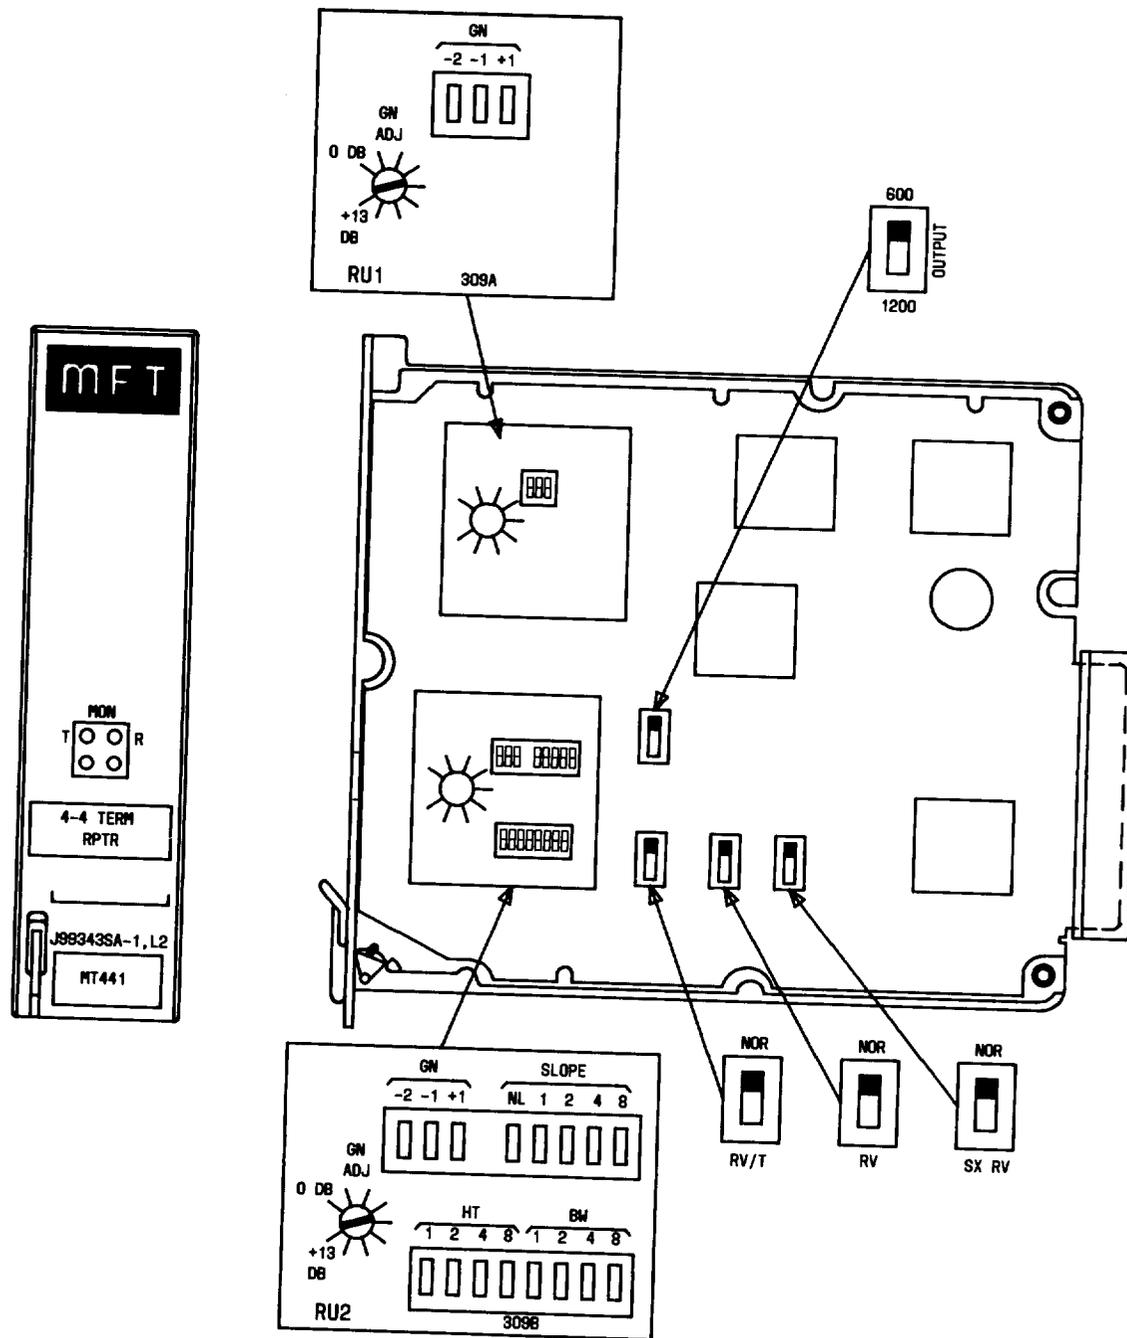
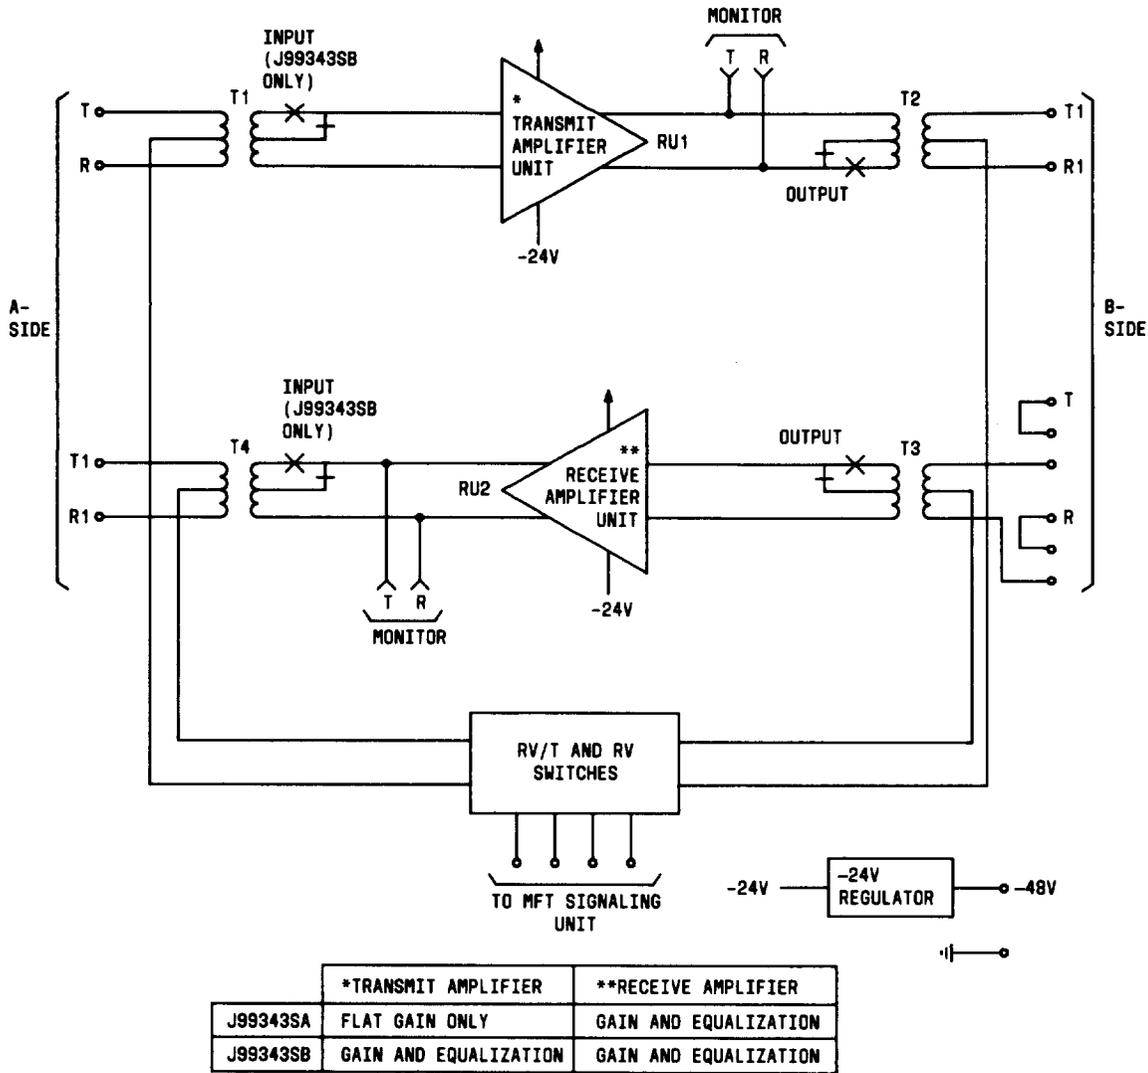
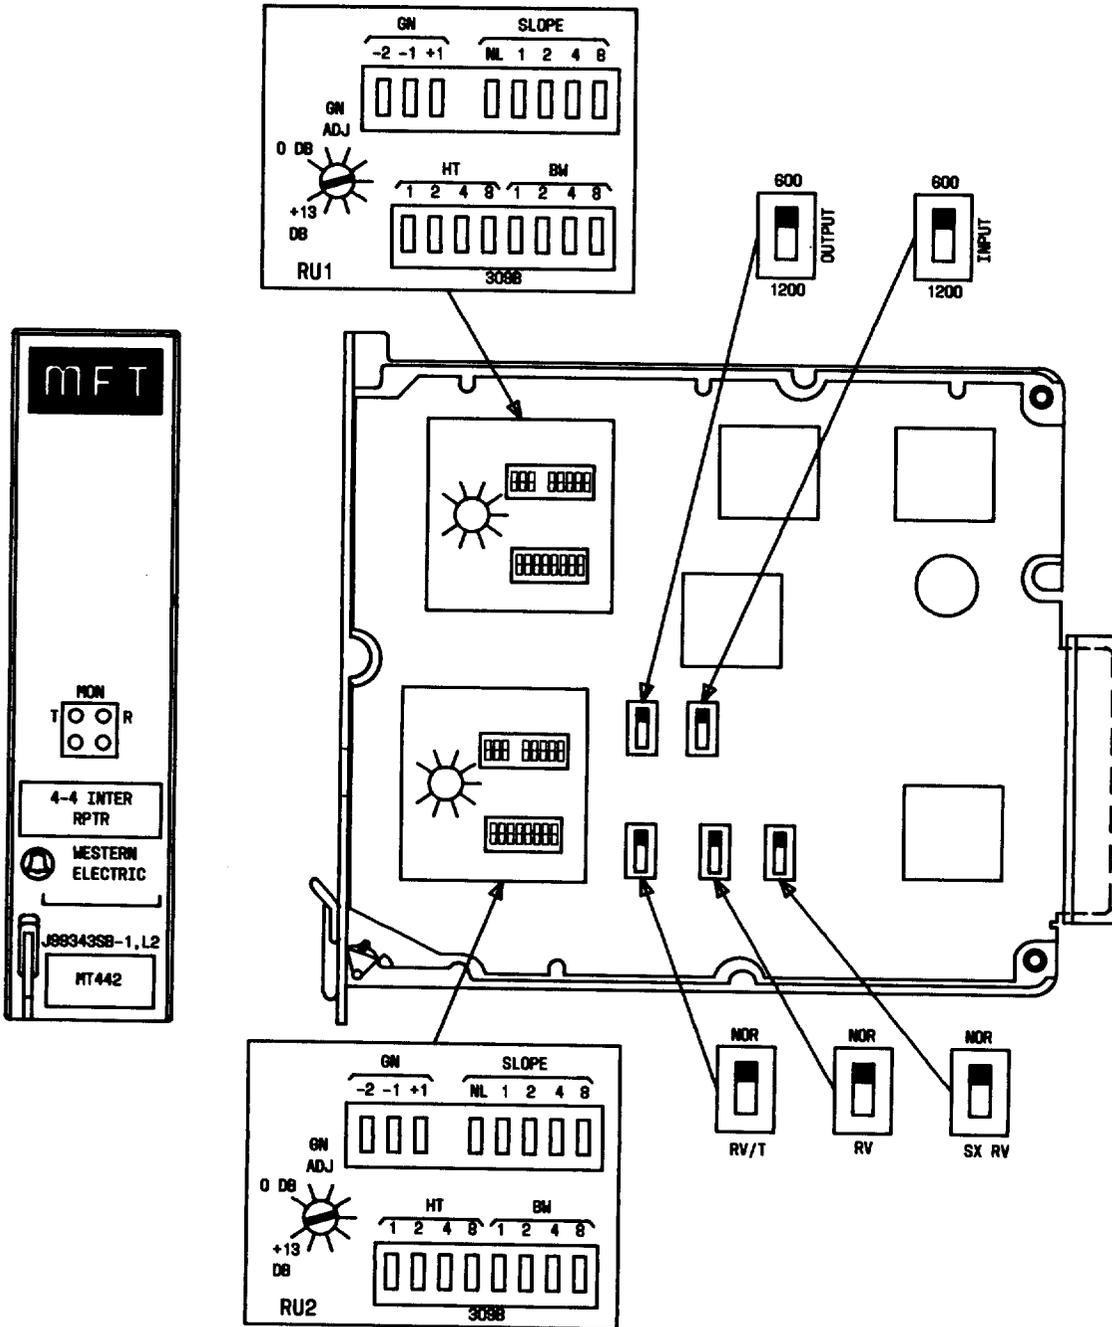

Fig. 1—J99343SA, Lists 1 and 2 (MD) Repeaters Component Layout
Fig. 2—Block Diagram of the J99343SA and SB, Lists 1 and 2 Repeaters
Fig. 6—J99343SB, Lists 1 and 2 Repeaters (MD) Component Layout
2.01 The J99343SA, Lists 1 and 2 are shown in Fig. 1. They provide gain between loaded or nonloaded 4-wire facilities and 600-ohm terminal equipment. Equalization is provided in the B-to-A direction of transmission. Figure 2 is a block diagram of these units.
2.06 The rocker-type switches for a particular function, which are described in the following paragraphs, are operated when depressed toward the respective designation. The sum of the values of the switches operated is the setting for that function. The unit controls are illustrated in Fig. 1.
4.01 The J99343SB, Lists 1 and 2 are shown in Fig. 6. They provide intermediate gain and equalization in the loaded or nonloaded 4-wire facilities. Figure 2 is a block diagram of these units.
4.05 The rocker-type switches for a particular function, which are described in the following paragraphs, are operated when depressed toward the respective designation. The sum of the values of the switches operated is the setting for that function. The unit controls are illustrated in Fig. 6.